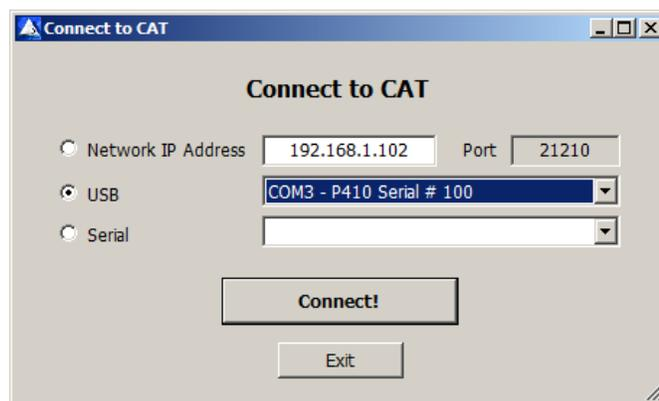

Fig. 20: CAT connect screen after USB connection
2. Connect the USB cable to both the P440 and the Host computer. A system message should appear indicating that the system has identified a new connection and the correct driver is being connected. This typically takes only a few seconds but on some systems could take as long as two minutes. Once that process is complete, CAT will set the USB button and indicate which COM port is connected to the P440. This is illustrated below in **Figure 20**.